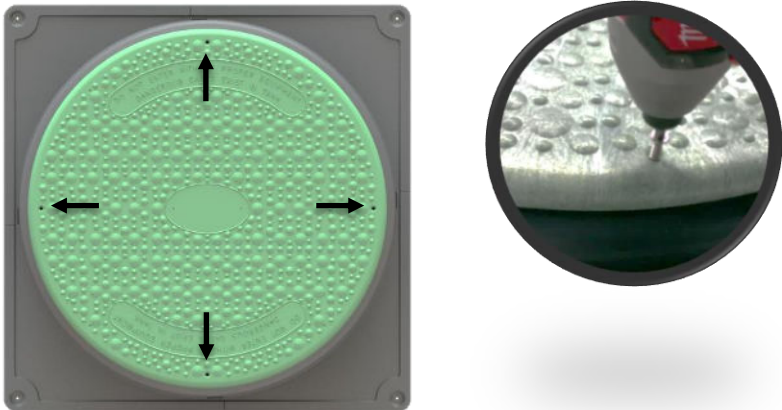

Figure 17: Cover installed
16.) Install four (4) cover security screws (riveted to underside of cover during shipping) and tighten (2 in-lbs.) with appropriate driver tool to secure riser cover to riser pipe (Fig.17)